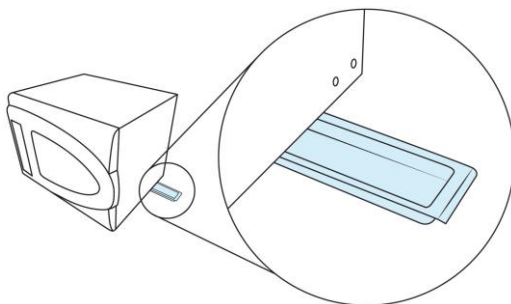

Figure 8. Condensation tray
- 9.1.5 Frequently check condensation accumulation in the condensation tray (fig. 8), discard if necessary.